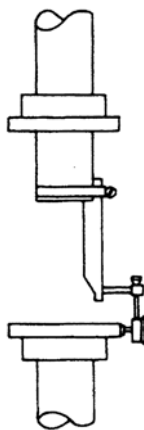

Figure 14.
- (c) To set offset alignment, attach the dial indicator to the driver hub, and position indicator to sweep the O.D. of the gearbox coupling hub flange (Figure 14). Rotate the driver shaft (do not rotate gearbox shaft). Using the driver jack screws, adjust driver to hold the total indicator reading within the offset limit specified in Table 3. Recheck angular alignment to ensure it is still within limits.
indicator to sweep the O.D. of the gearbox hub flange (Figure 14). Rotate the driver shaft (do not rotate gearbox shaft). Using the motor jack screws, adjust motor to hold the total indicator reading within the offset limit specified in Table 4. Recheck angular alignment to ensure it is still within limits.
- (c) To set final offset alignment, attach the dial indicator to the driver hub and position indicator to sweep the O.D. of the gearbox hub flange (Figure 14). Rotate the driver shaft (do not rotate gearbox shaft). Using shims and jack screws provided, adjust the driver to hold the total indicator reading within the offset limit specified in Table 5. Recheck angular alignment and distance between shaft ends to ensure they are still within limits.
- (c) To set final offset alignment, attach the dial indicator to the driver hub and position indicator to sweep the O.D. of the gearbox hub flange (Figure 14, Page 12). Rotate the driver shaft (do not rotate gearbox shaft). Using shims and jack screws provided, adjust the driver to hold the total indicator reading within the offset limit specified in Table 4. Recheck angular alignment to ensure it is still within limits.